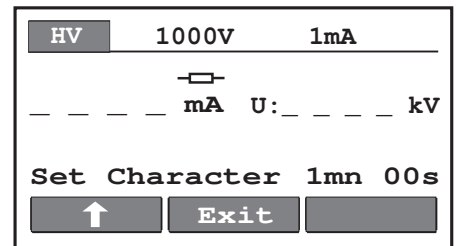

Fig.5. Menu for selection of test current character
- Character of the displayed test current (fig. 5)